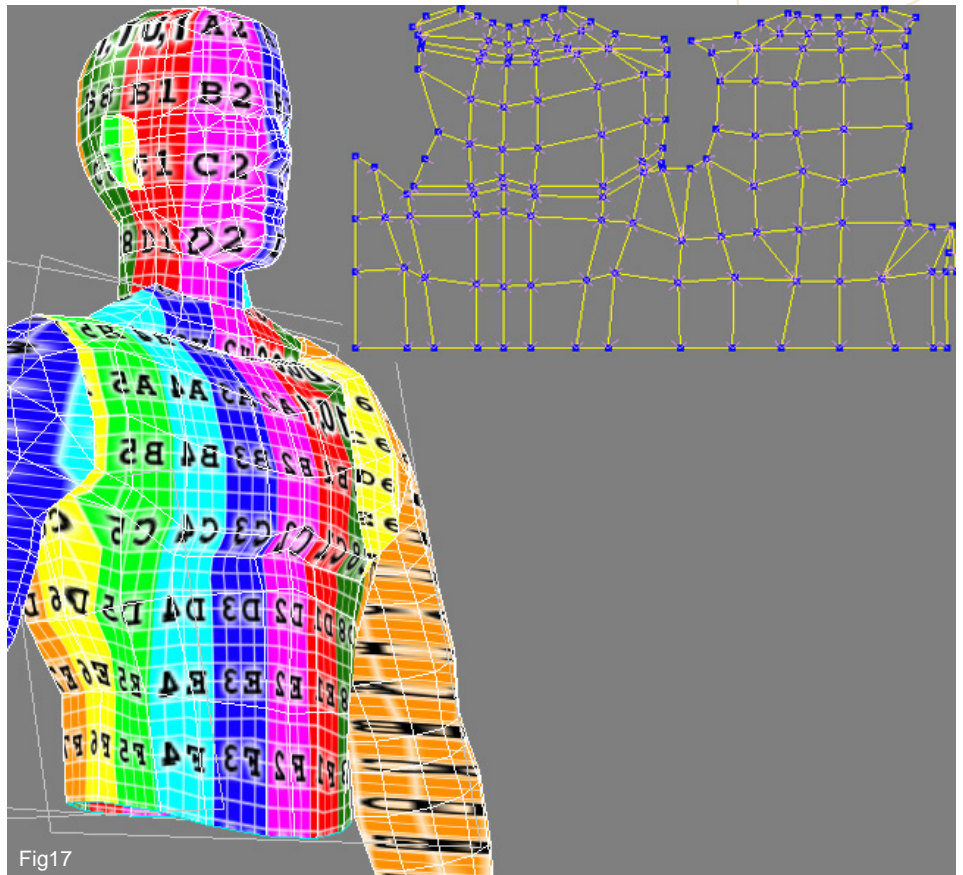

Fig17
17. As you can see in Fig17, the two parts of the torso are put together with the Heal tool applied in the central column of vertices in the Texture Editor.